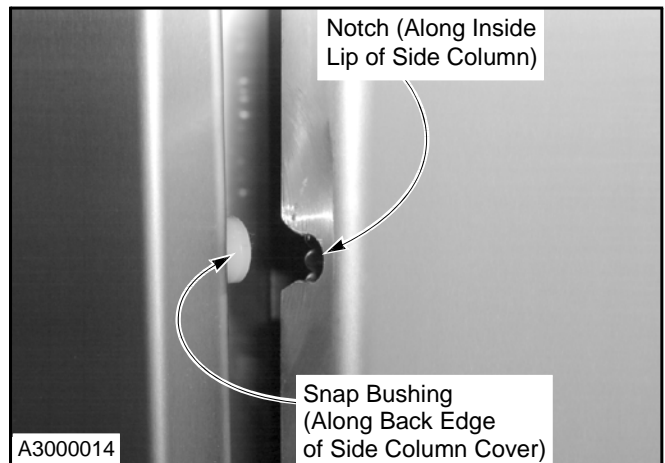

Figure 36
1. Each cover is held in place by sliding snap bushings attached to the edge of the cover into notches cut in the lip of the side column. (See Figure 36.)